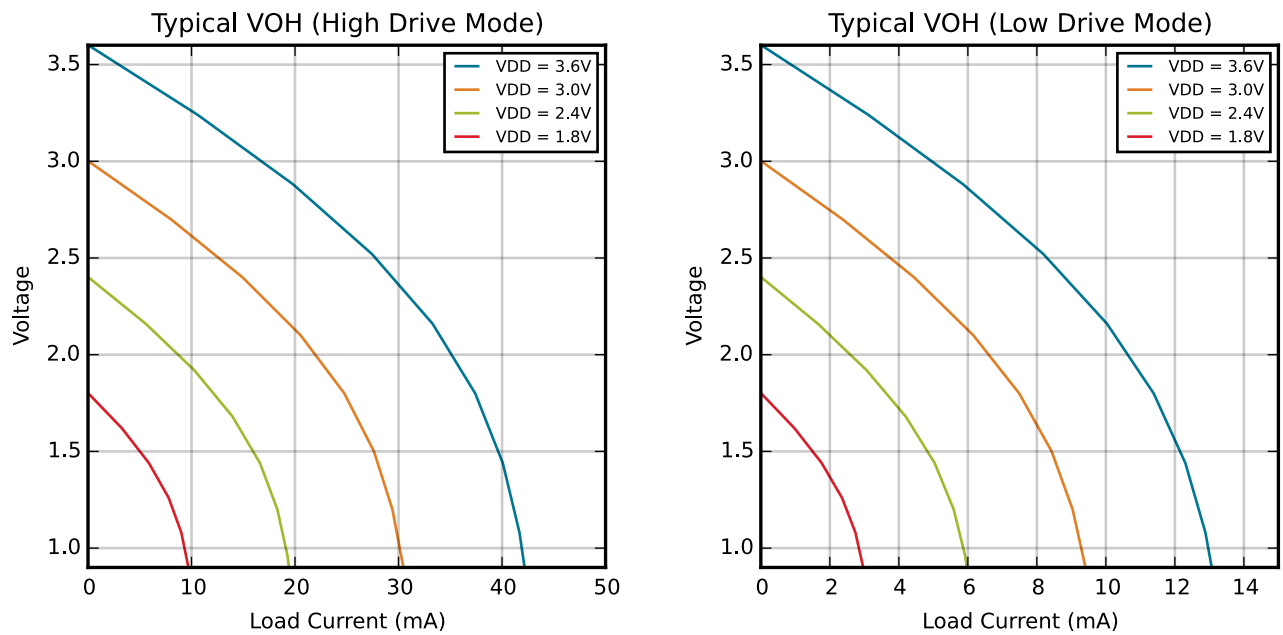
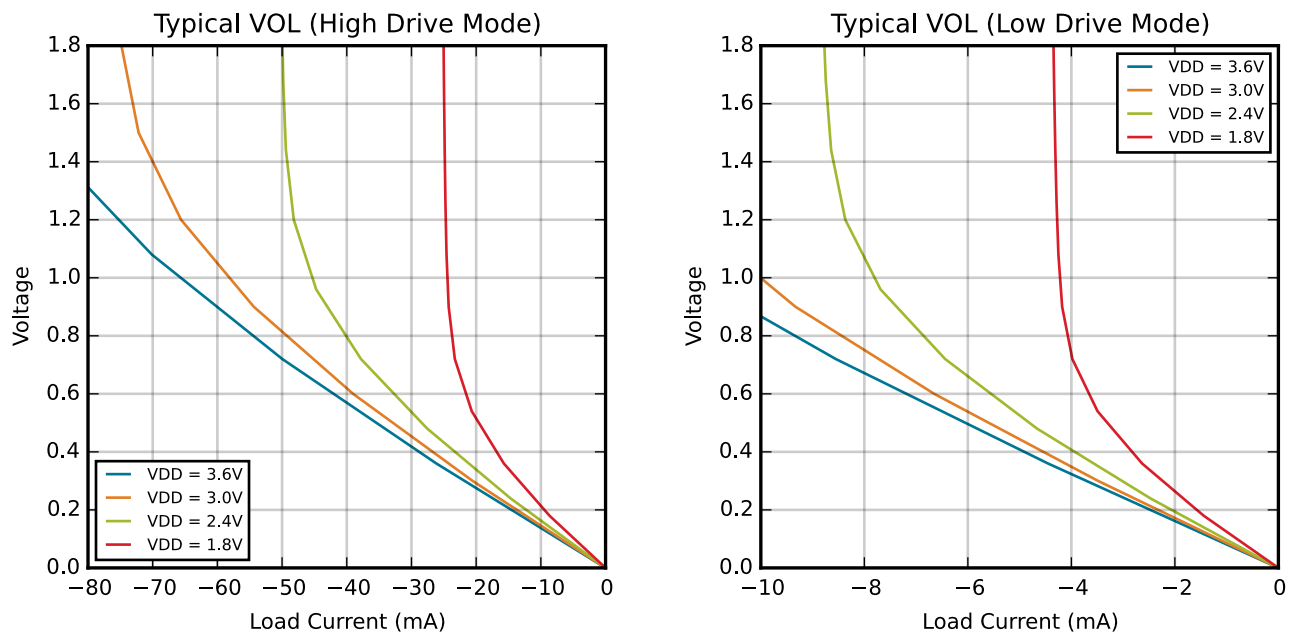

Figure 4.3. Typical V_{OH} Curves
Figure 4.4. Typical V_{OL} Curves
1. See Figure 4.3 Typical V_{OH} Curves on page 29 and Figure 4.4 Typical V_{OL} Curves on page 30 for more information.